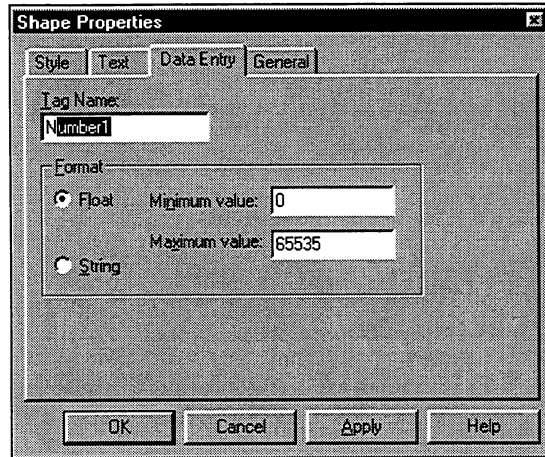

Figure 4-32. Data Entry Properties Page
3. Leave the default settings in the remaining fields, as shown in Figure 4-32.